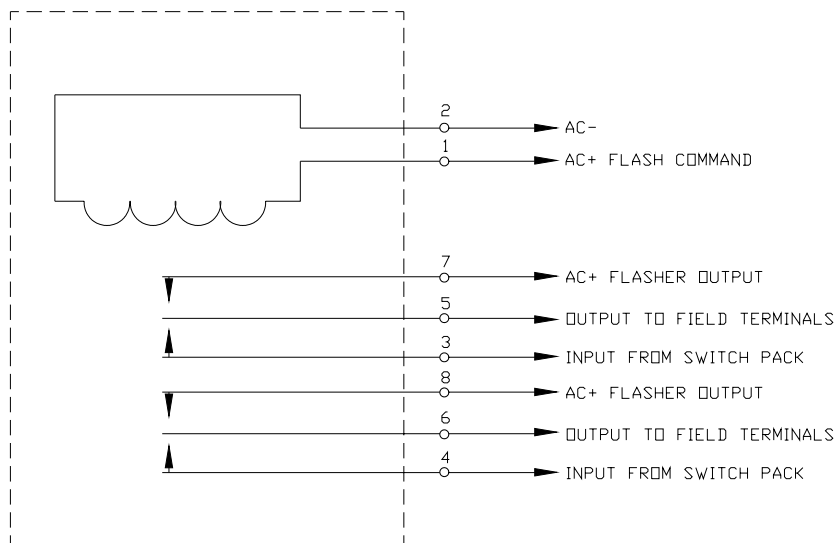

Figure 678-23: MODEL 430 FLASH TRANSFER RELAY CONFIGURATION
- (c) Each Relay shall withstand a potential of 1500 VAC at 60 Hz between insulated parts and between current carrying or non-carrying parts. Each Relay shall have a one (1) cycle surge rating of 175 amperes RMS.
- (d) The electrical configuration of the Model 430 Flash Transfer Relay is provided in Figure 678-23.